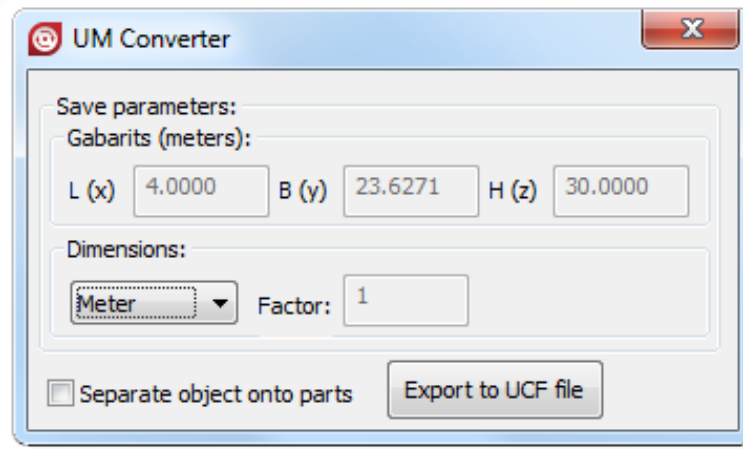

Figure 9.6. Export data to UCF file
4. Check the gabarits of the loading model given in meters. If necessary change the **Dimensions** or directly set **Factor**, see Figure 9.6. By default all parts and components from the file will be merged within one rigid body. If your file includes several rigid bodies use **Separate object onto parts** check box, see Figure 9.6.